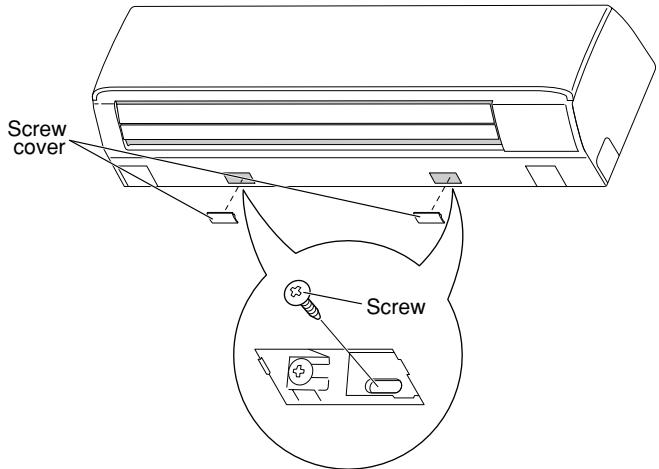

Fig. 43
- (1) Remove the screw cover on the bottom surface. (Fig. 43)
- (2) Fasten the frame to the rear panel using the 2 supplied tapping screws 5/32" x 13/32" (4 x 10 mm). (Fig. 43)